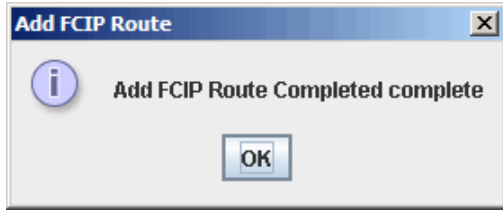

Figure 41 FCIP route add Wizard—completed dialog box
7. The **Add FCIP Route Complete** dialog box signifies the completion of the route add operation, see Figure 41. This dialog box may take a number of seconds before appearing. Click **OK** to exit the dialog box.